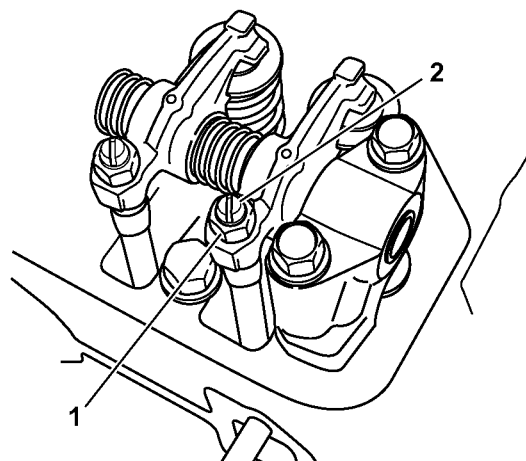
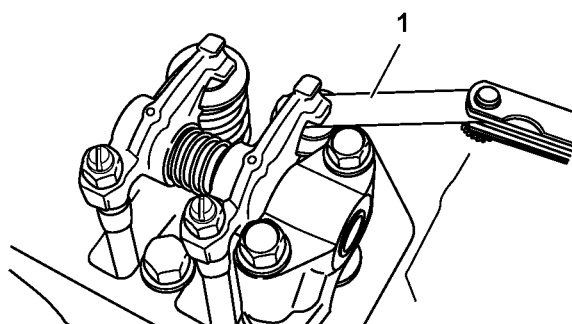

Figure 6-78
Figure 6-79
5. Loosen the valve adjusting screw lock nut (1, **Figure 6-78**) and valve adjusting screw (2, **Figure 6-78**) on the rocker arm and check the valve for inclination of the valve cap, entrance of dirt, or wear.
6. Insert a feeler gauge of the correct thickness (1, **Figure 6-79**) (see *Adjustment Specifications* on page 6-4) between the rocker arm and valve cap. Turn the valve adjustment screw to adjust the valve clearance so there is a slight "drag" on the feeler gauge when sliding it between the rocker arm and the valve cap. Hold the adjusting screw while tightening the valve adjusting screw lock nut (1, **Figure 6-78**). Recheck the clearance.